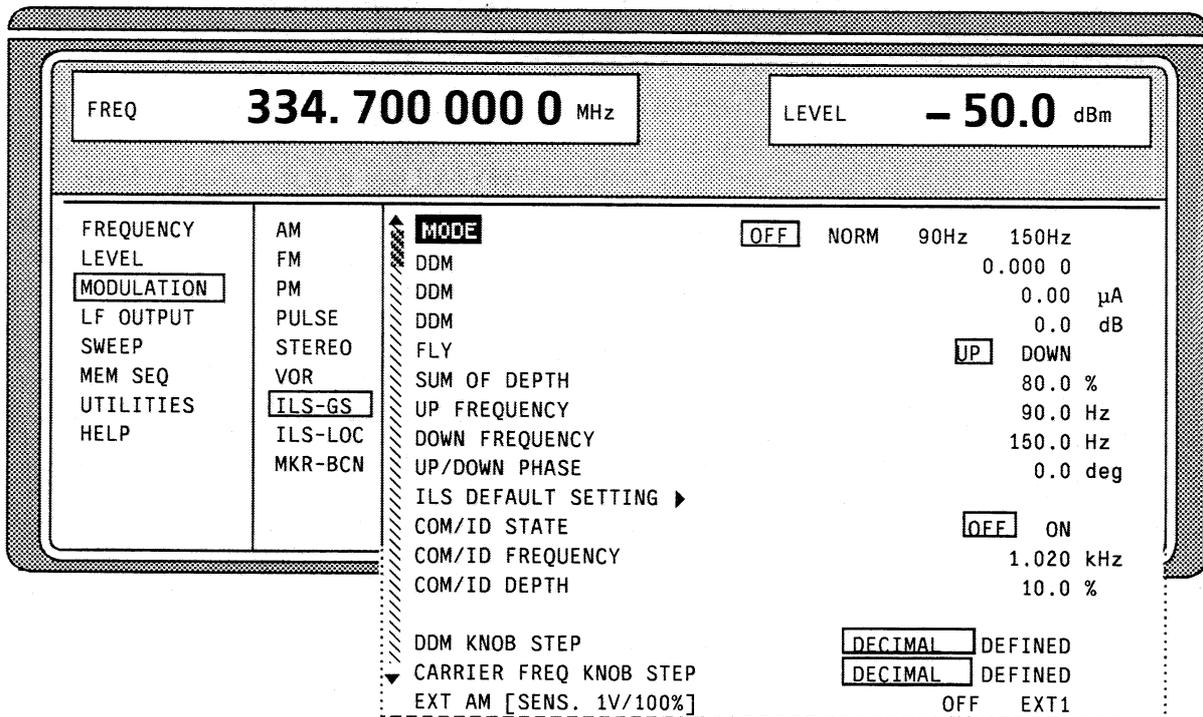

Fig. 2-34 Menu MODULATION-ILS-GS (preset setting), fitted with option SM-B6, multifunction generator
**DEFAULT SETTING** Call the ILS-GS default setting. The default setting corresponds to the setting represented in Fig. 2-34 except for the MODE setting (= NORM). The selection of the CARRIER FREQ KNOB STEP parameter is not changed by calling this function.